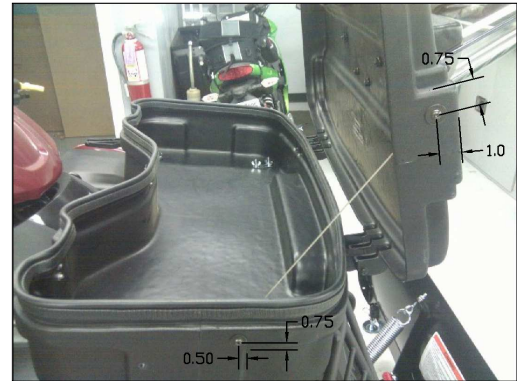

fig. 3
6. In order to limit the travel of the Cargo Top lid, drill  $\frac{1}{4}$ " holes in lid and base in the locations shown. (fig. 3)